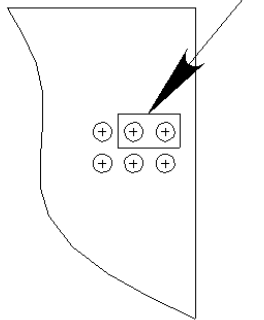

Figure 1
See figure 1, 2, and 3 for proper jumper installation.
- When the jumper is in the on position, the control board is setup to operate using the DEMA optional remote kit (See Figure 1).